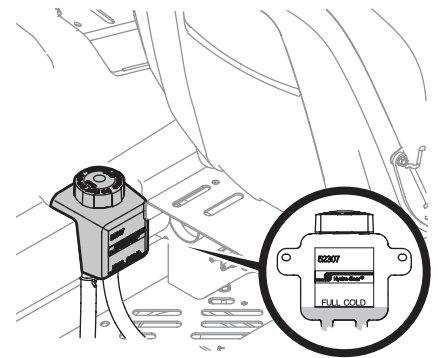

Figure 25
- Clean the reservoir cap and the area around the cap to prevent debris from contaminating the transmission oil. See Figure 25.
- Turn the reservoir cap counter-clockwise to remove, then check the oil level in the reservoir. Oil should be visible at the bottom of the cup, but the oil level must **NOT** be above the "FULL COLD" line. See Figure 25. **DO NOT FILL THE RESERVOIR.**